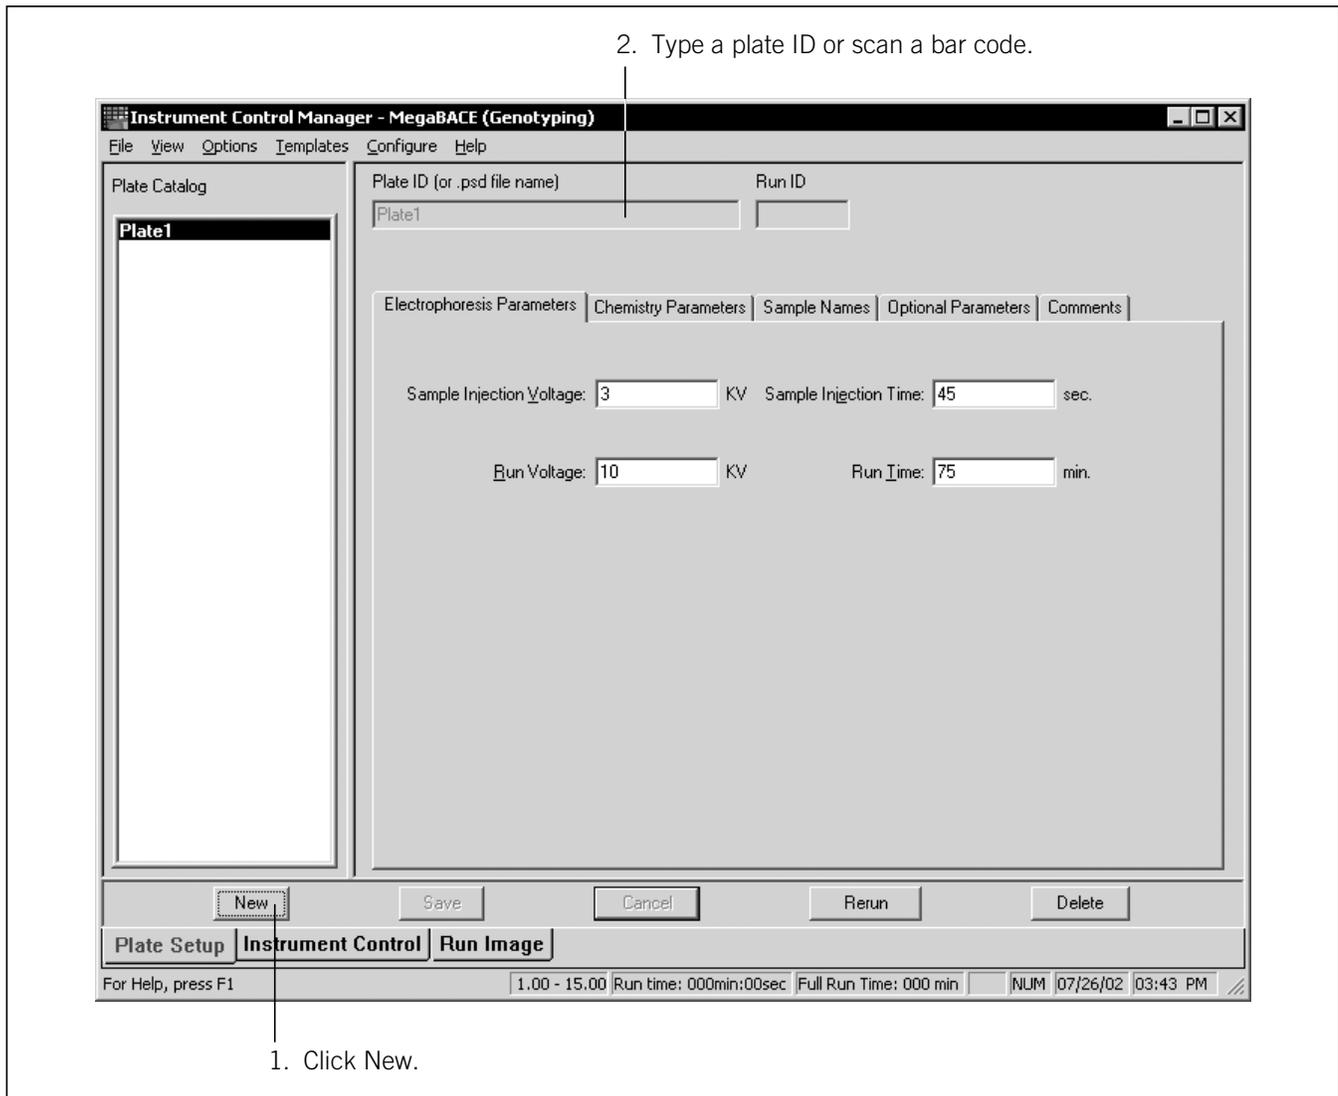

Figure 10-6. The Plate Setup window showing the electrophoresis parameters for STR genotyping.
1. In the Plate Setup window, click **New** (figure 10-6).
2. Check to see if values appear for the electrophoresis parameters in the Plate Setup window (figure 10-6). If values appear, your software has been configured to use a default plate setup template.
4. Click **Save** to save the plate definition. The plate ID appears in the Plate Catalog (figure 10-6).
1. Click **New** in the Plate Setup window (figure 10-6).
2. In the **Plate ID** box, type the .psd file name or scan a bar code. The software automatically saves the new plate definition, and the plate ID appears in the Plate Catalog (figure 10-6).
2. In the Plate Setup window, click **New** (figure 10-6).
- In the **Electrophoresis Parameters** tab (figure 10-6), type the electrophoresis parameters.
5. Click **Save** to save the plate definition. The plate ID appears in the Plate Catalog (figure 10-6).